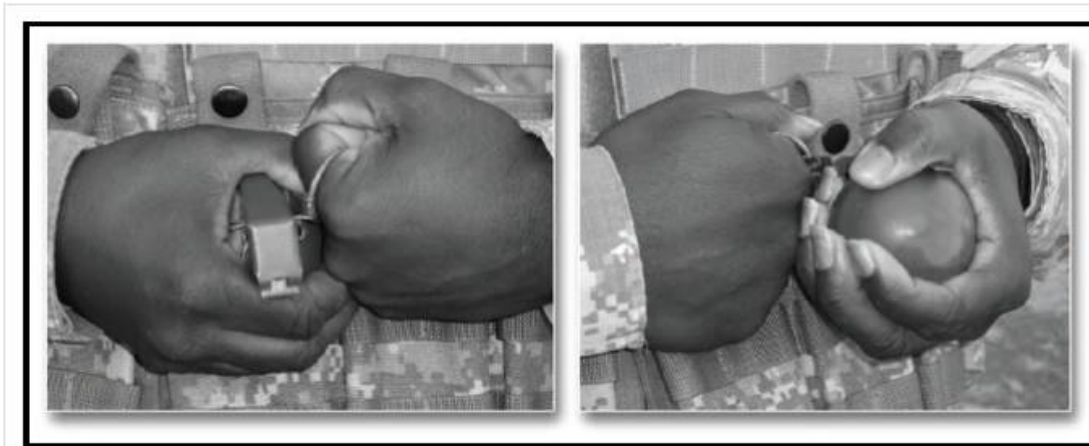

Figure 1. Pull ring grip, right/left hand.
c. Insert the index or middle finger of the non-throwing hand in the pull ring until it reaches the knuckle of the finger (Figure 1).